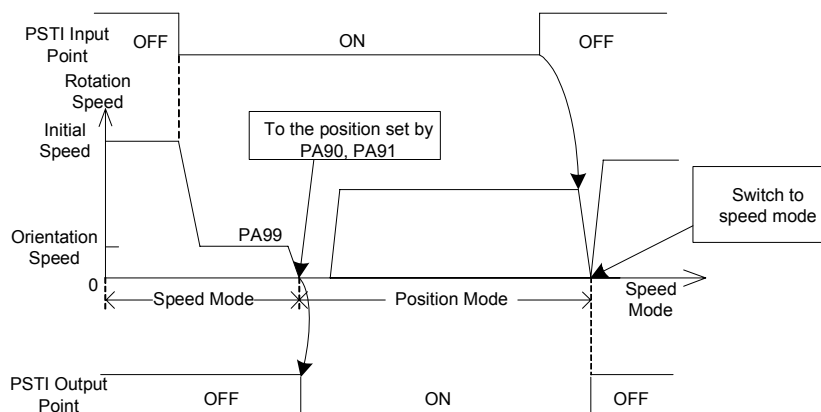

Fig. 5-4-1 Switching process when PA89=0
4. When the motor works normally in speed mode, switch to position mode directly, and turn ON signal PSTI. The sequence is in Figure 5.4.1 or 5.4.2 signals PSTO+ and PSTO- conduct. Then, perform commissioning according to Section 5.3.